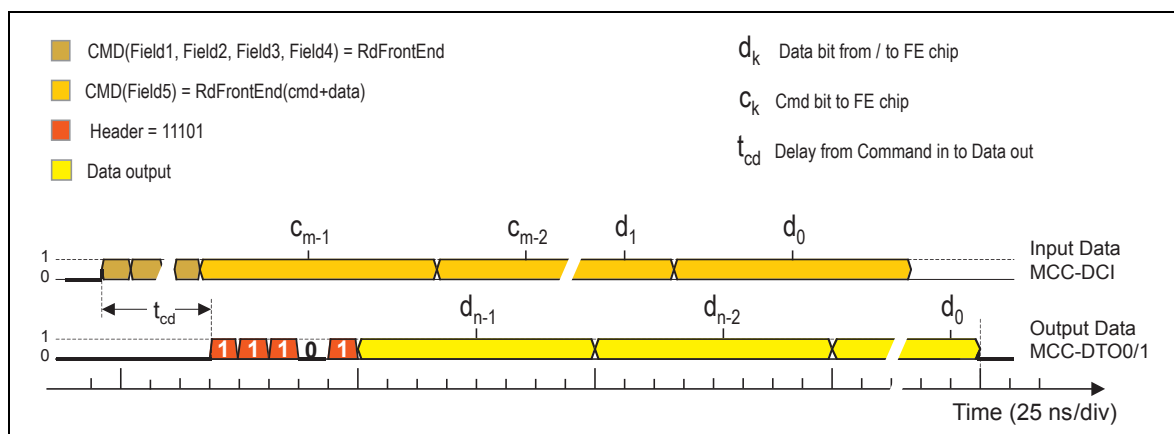

Figure 6-2 MCC to ROD data format in case of RdFrontEnd command.
- Fig. 6-2** *p. 3* MCC to ROD data format in case of RdFrontEnd command.
Figure 6-2 shows an example of a RdFrontEnd configuration command in which an internal *FE* register is loaded. As can be seen, in response to a serial command, composed by the bits which identify the command to the *MCC* followed by the command and data to be written in the selected *FE* Register, the *MCC* responds with the 5-bit header (11101) followed by the contents of the *FE* Register with a 5 MHz clock.